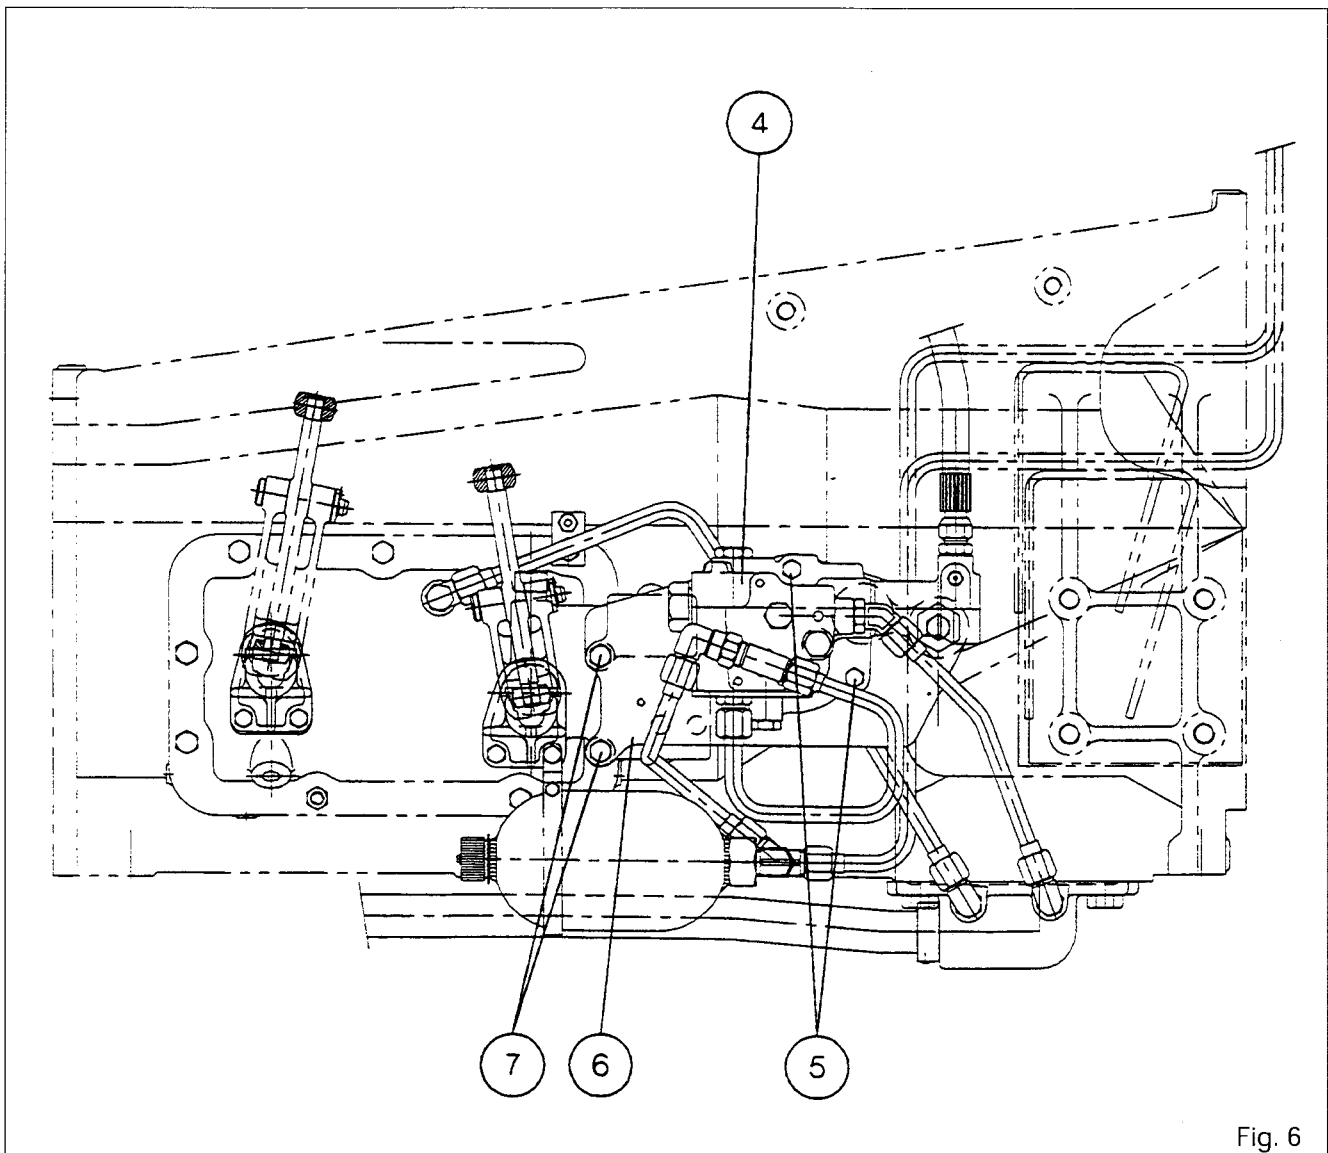

Fig. 6
**D. Removing and refitting the control valve (Fig. 6)****Removal**